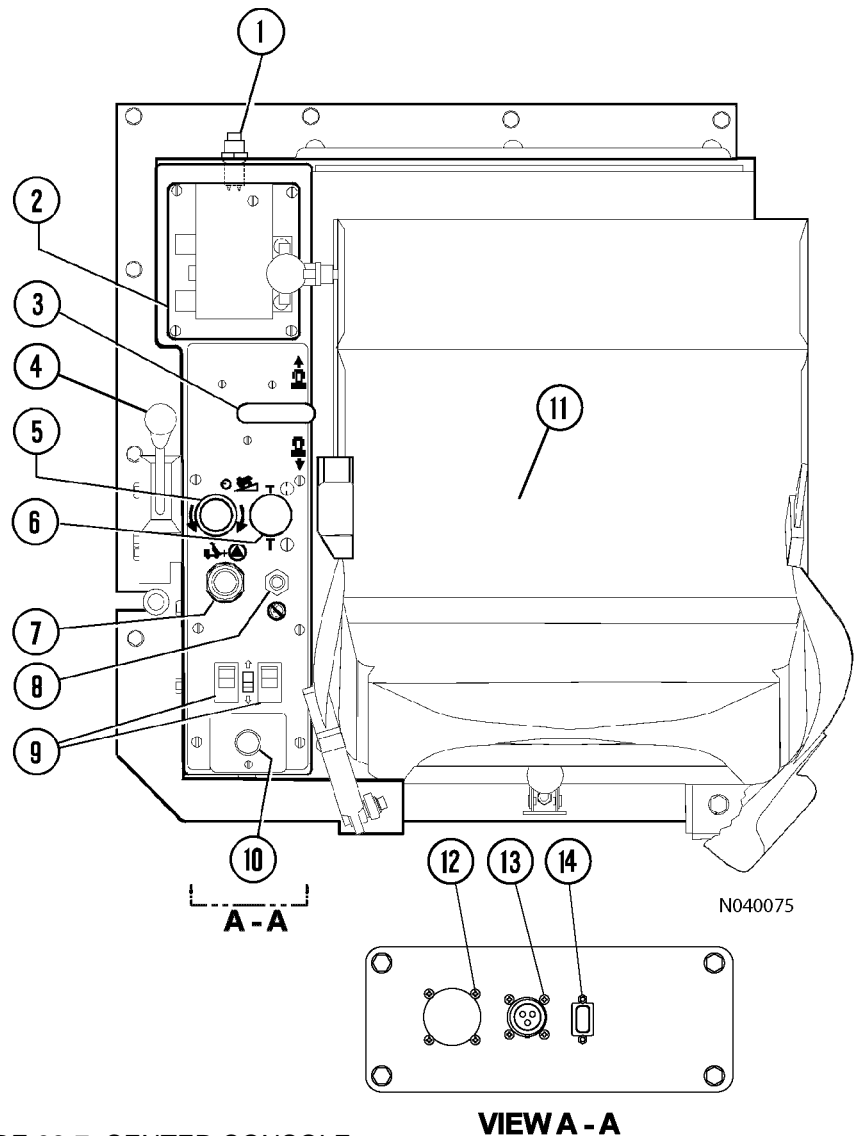

FIGURE 32-7. CENTER CONSOLE
Data storage button (1, Figure 32-7) is for use by qualified maintenance personnel to record in memory a “snap-shot” of the Statex III drive system.
Selector switch (3, Figure 32-7) is mounted on a console to the right of the operator's seat. It is a three position switch which controls the forward-neutral-reverse motion of the truck. When the selector switch handle is in the N position, it is in NEUTRAL. The handle must be in NEUTRAL to start the engine.
Hoist control (4, Figure 32-7) is a four position hand-operated lever located between the operator seat and the center console.
RSC adjust dial (5, Figure 32-7) allows the operator to vary the downhill truck speed that the retard speed control system will maintain when descending a grade.
Retard speed control switch (6, Figure 32-7) turns the system off or on. Push the knob in to turn off and pull the knob out to turn the system on.
Override switch (7, Figure 32-7) is spring-loaded to the OFF position. When pushed in and held, this switch may be used for several functions.
Engine shutdown switch (8, Figure 32-7) is used to turn the engine off. Pull the switch up to stop the engine. Push the switch back down to enable engine operation.
Window control switch (9, Figure 32-7) is spring-loaded to the OFF position. Pushing the front of the switch raises the cab window. Pushing the rear of the switch lowers the window.
Ash tray (10, Figure 32-7) is used for extinguishing and depositing smoking materials. DO NOT use for flammable materials, such as paper wrappers.
Lighter (10, Figure 32-7) may be used for lighting cigars/cigarettes.
Download ports and connectors are located inside the center console and are illustrated in Figure 32-7.
Payload meter (1, Figure 32-7) and download connector (2) are used to provide management with operational data such as tonnage hauled and cycle times.